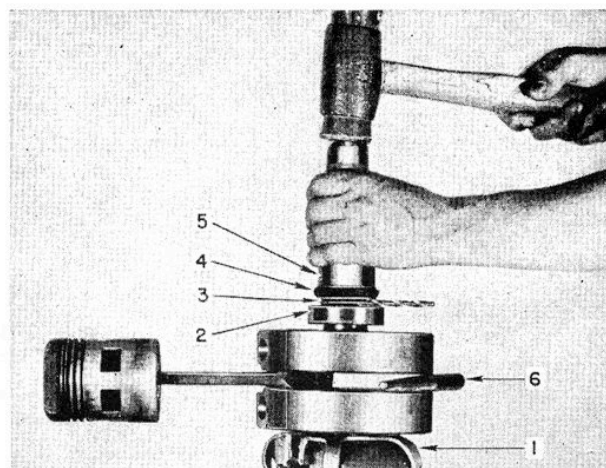

FIG. 15—REPLACING CRANKSHAFT OIL SEAL
b. Using driver GP-4, press oil seals on to each end of crankshaft, maintaining a clearance of 1/4 inch drill as gage. (See figure 15).